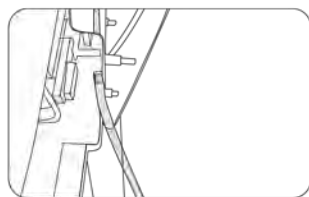

Figure 12
- Unplug the joint of the upper armrest air pipe to remove the armrest completely. (Figure 12)